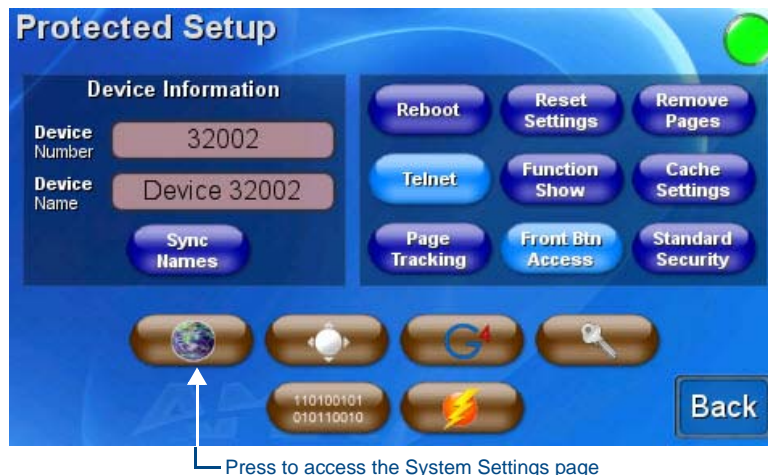

FIG. 29 Protected Setup Page
1. Press the **System Settings** button on the *Protected Setup* page to open the *System Settings* page (FIG. 29).